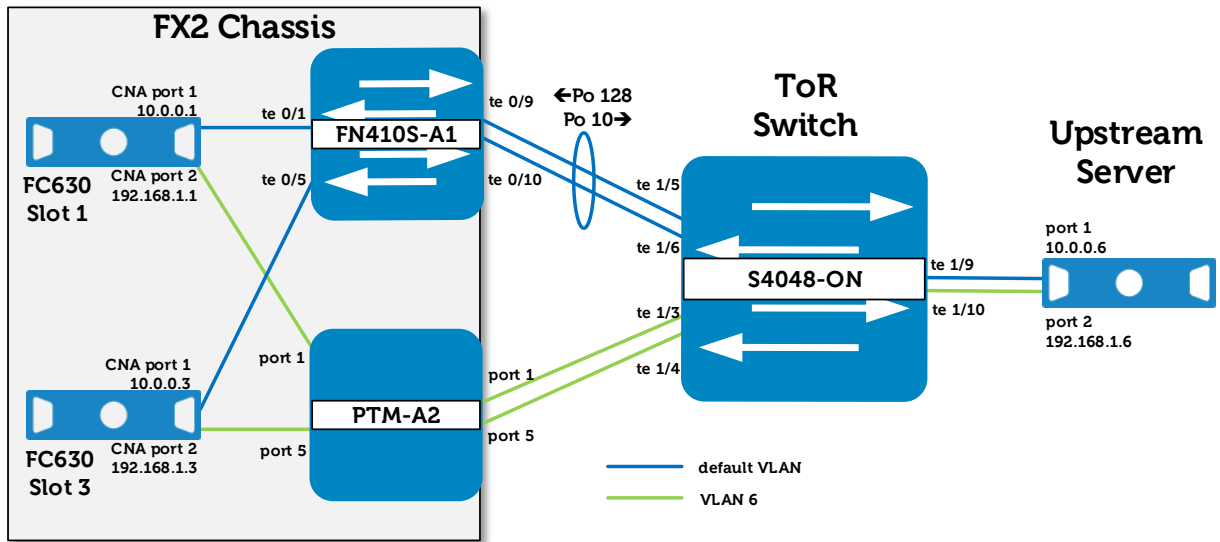

Figure 9 Upgrade midpoint with one PTM and one FN410S installed
4. Connect cables from S4048-ON ports te 1/5-1/6 to FN410S-A1 ports te 0/9-0/10. The network now appears as shown in Figure 9.
- On FN410S-A1, UFD detects port channel 128 is up and brings up the internal, server-facing ports (FN410S-A1 ports te 0/1 and te 0/5 in Figure 9). This causes the corresponding server CNA ports to come up.